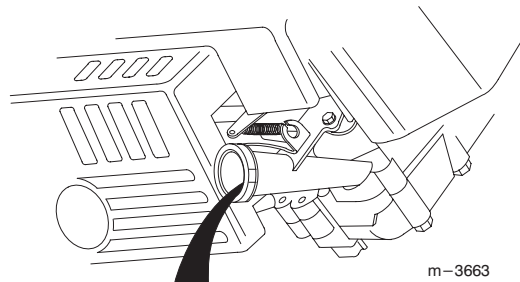

Figure 11
4. Tip the lawn mower onto its **left** side, allowing the oil to drain into the drain pan (Fig. 11).